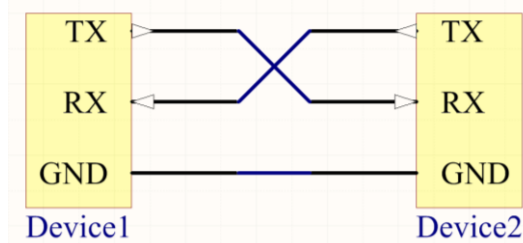

Figure 5-3 Simple UART model
UART stands for Universal Asynchronous Receiver/Transmitter. It is a digital data transmission interface, which, in its simplest form, uses two data lines (Transmit (TX) and Receive (RX)) and a ground connection between the communicating devices. See Figure 5-3.